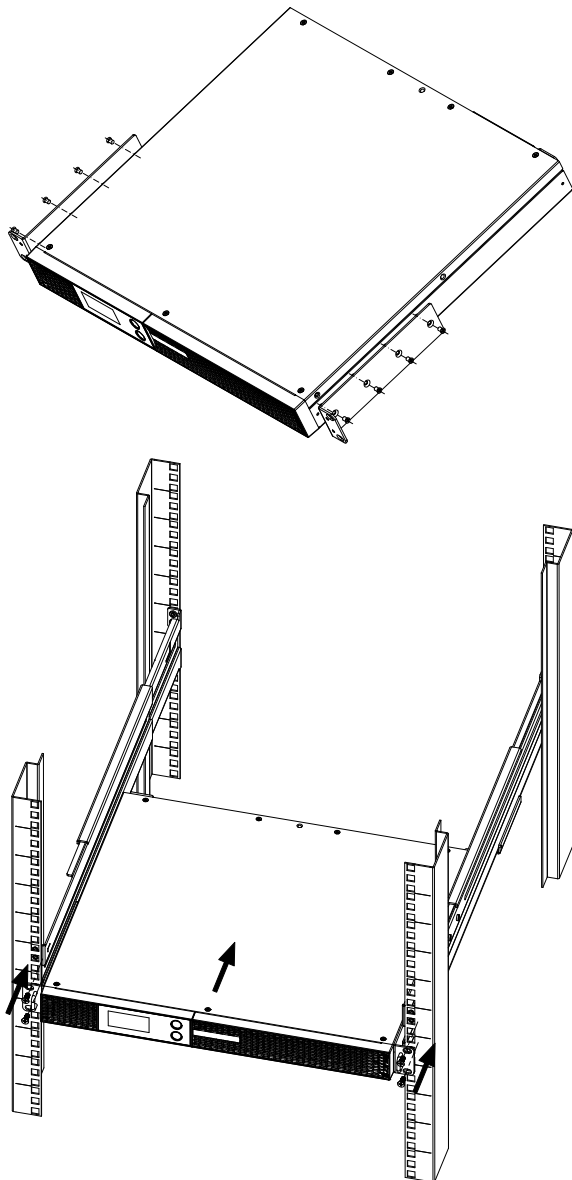

Fig. 8. SPS ADVANCE R2 mounting in a 19" cabinet.
- Proceed as follows (see Fig. 8):